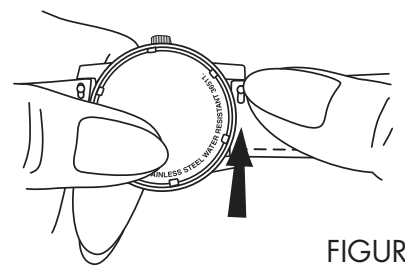

FIGURE 3B
3. (Figure 3B) Slide release button to retract tension pin and maneuver strap/bracelet into position between lugs, then ease pressure on release button, guiding end of tension pin into hole in lug, and tug gently to make sure strap/bracelet is properly attached.